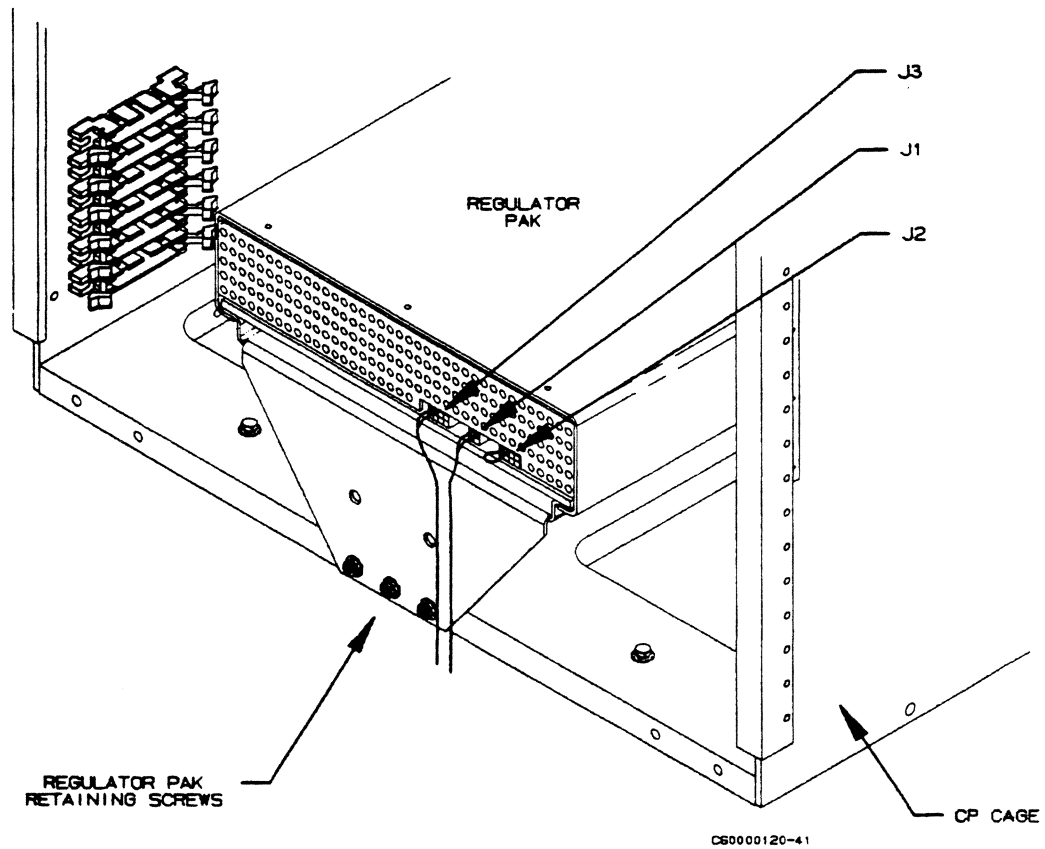

Figure 2-48. CP Regulator Pak
- ___ 4. Place Pak on channel guide (figure 2-48) at bottom of CP-0 logic cage. Slide Pak into cage, through a springy resistance, until it seats in rear connectors.